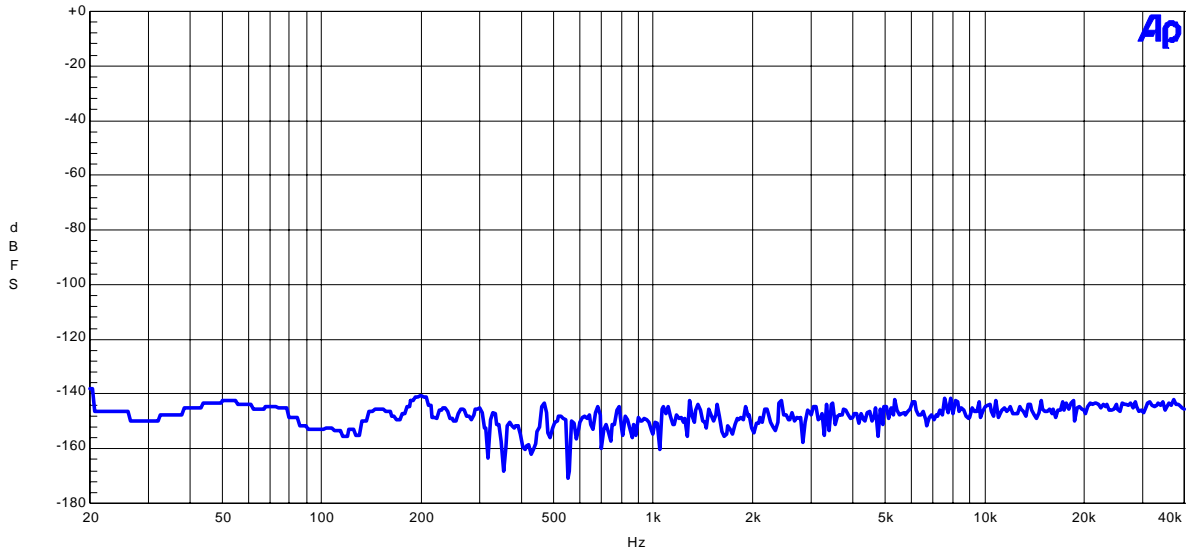

Figure 1-2-3. FFT (1kHz, -60dB input)
- Figure 1-2-3. FFT (off the input)